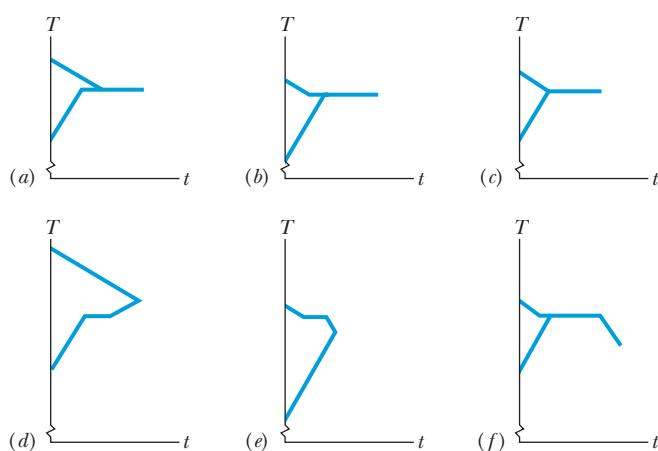

Figure 18-25 Questions 4 and 5.
- 5** Question 4 continued: Graphs *b* through *f* of Fig. 18-25 are additional sketches of  $T$  versus  $t$ , of which one or more are impossible to produce. (a) Which is impossible and why? (b) In the possible ones, is the equilibrium temperature above, below, or at the freezing point of water? (c) As the possible situations reach equilibrium, does the liquid partly freeze, fully freeze, or undergo no freezing? Does the ice partly melt, fully melt, or undergo no melting?